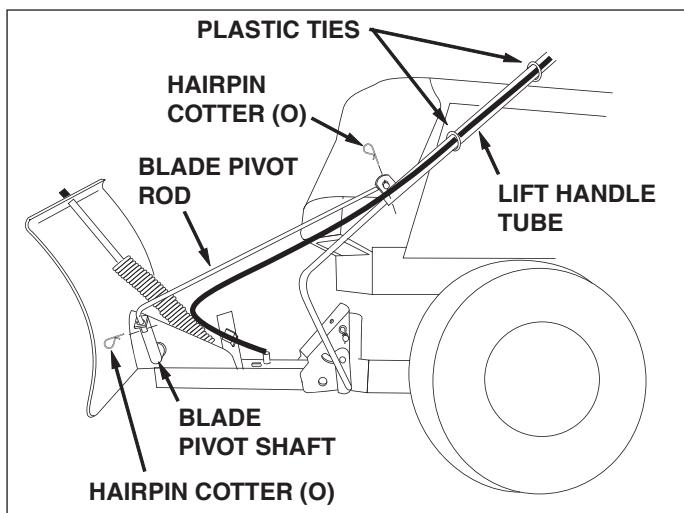

FIGURE 22
#### STEP 22: (SEE FIGURE 22)
- Remove the hairpin cotter which fastens the blade pivot rod to the blade pivot shaft. See figure 22 on page 10.